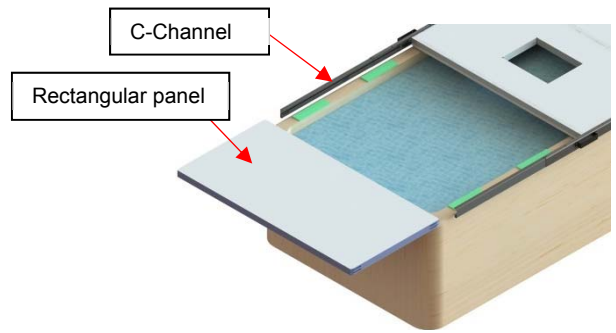

Figure 25
23) Slide in one of the remaining rectangular panels into the C-channels. (Figure 25)